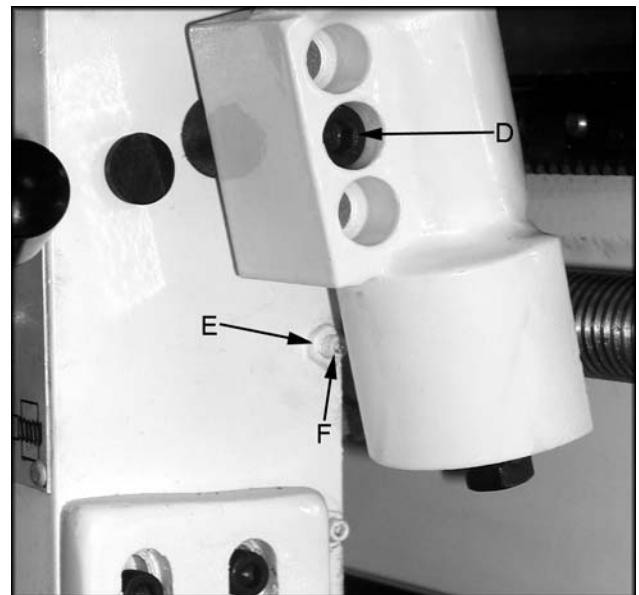

Fig. 19
1. Remove the thread dial assembly by unscrewing the screw (D, Fig. 19).
2. Loosen three hex nuts (E, Fig. 19) found on the side of apron, and turn three set screws (F, Fig.19) equally with a hex wrench.